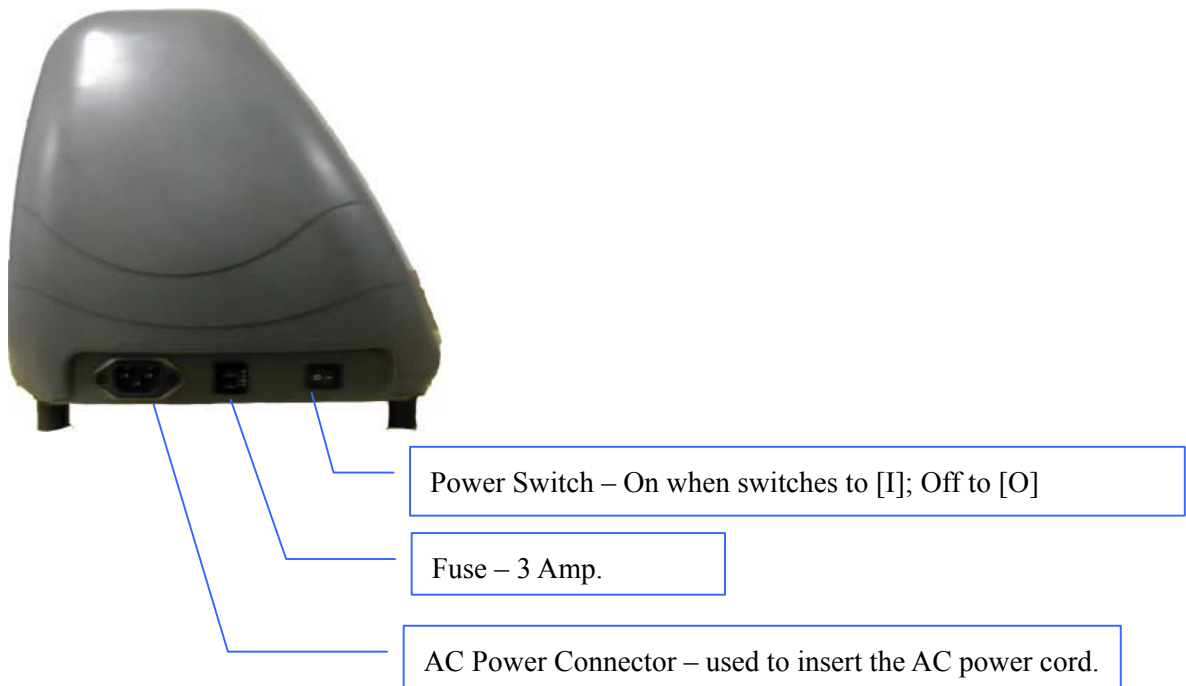

Figure 1-4
1.5 Left Hand Side of Jaguar (Figure 1-4)